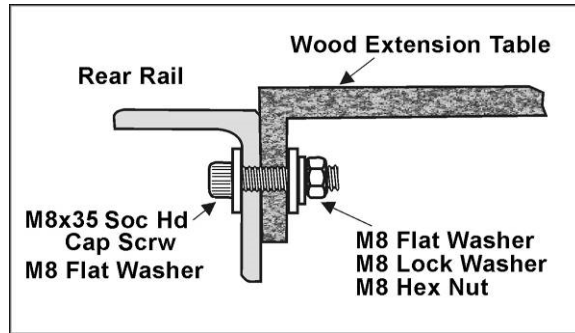

Figure 10
8. Install M8 x 35 socket head cap screws and flat washers in rear rail, and secure with flat washer, lock washer and hex nut behind lip of wood table (Figure 10). *Finger tighten only.*